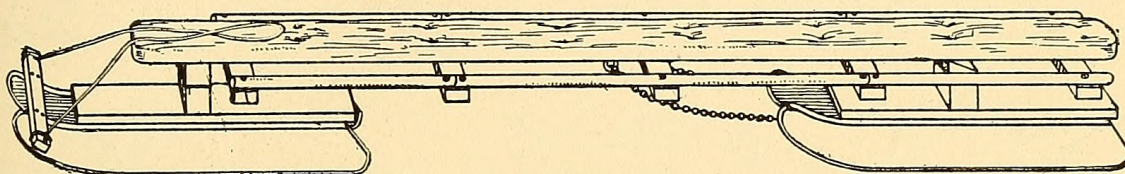

FIG. 374. — A Home-made Bob-sled.
**The Steering Lines** to its ends (Fig. 374).
**For Handle-bars** cut the cross-bars *F* (Fig. 378) 20 inches long and screw them to the under side of the plank seat, and bolt pieces of broom-handle to their ends, as shown in Fig. 374.
secured to the plank by stretching a piece of cloth over it and tacking it to the edges of the plank with cord before putting on the top covering (see directions for upholstering on page 116); then the covering should be pulled tight over the padding and tacked to the under side of the plank. *Tufting* the cushion every 4 or 5 inches, by driving nails through the covering and padding into the plank, will prevent the padding from shifting and becoming lumpy (Fig. 374).